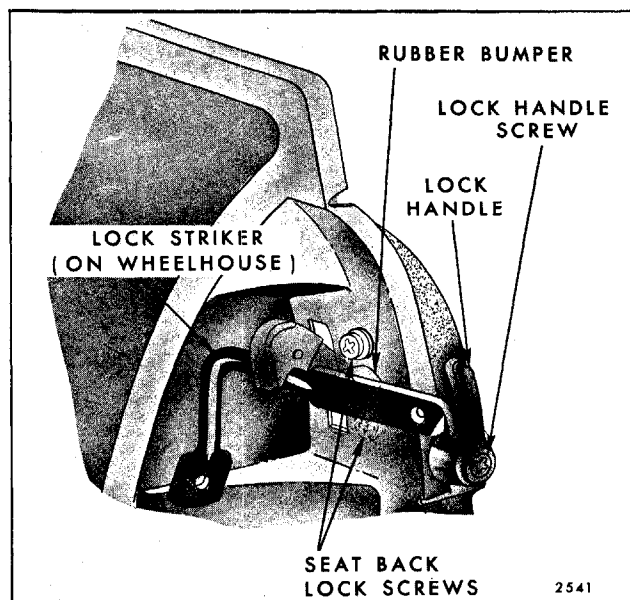

Fig. 9-92-Folding Second Seat Back Lock and Striker - All "A" Styles
4. To install seat back lock assembly, reverse removal procedure. A small amount of lock adjustment is available to obtain proper engagement of lock bolt with lock striker on wheelhouse as shown in Figure 9-92.